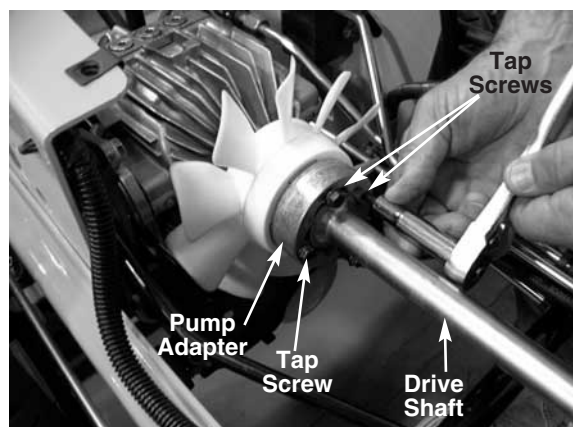

FIGURE 2.
13. Remove all four of the drive shaft hub screws from the pump adapter using a 3/8 socket. See figure 2.